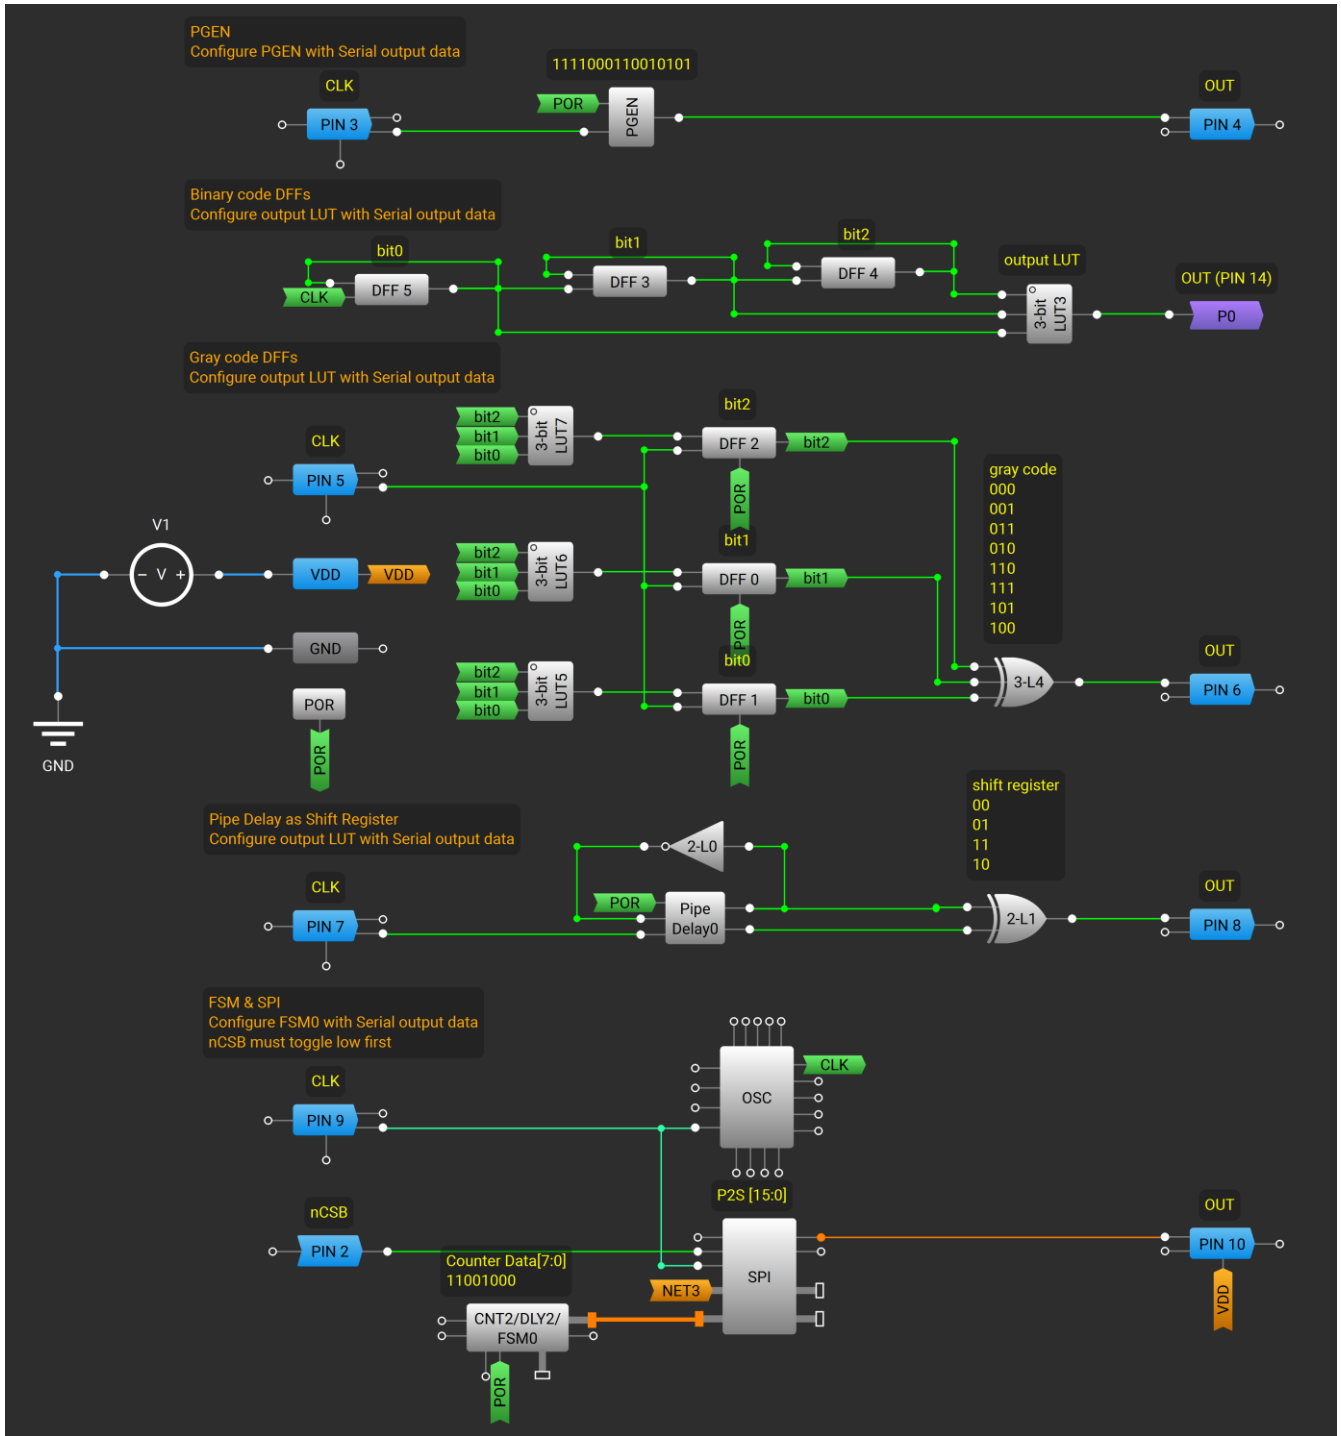

Figure 9. Matrix 0
- Make matrix connections as shown in Figure 9.
In the ‘Vertical’ ASM, the design scrolls through the states of one column and then moves on to the next column. In Figure 9, each ASM output is windowed for 8 clock periods by the Gray Code DFFs. The DFF3 generates a pulse every period which is used to transition between states.